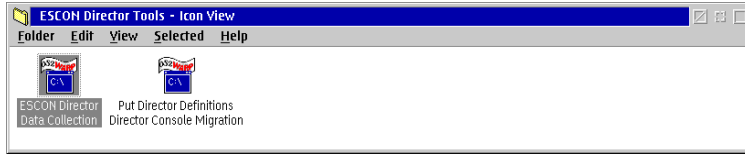

Figure 2-34. ESCON Director Tools - Icon View Window
- b. Double-click the *ESCON Director Tools* icon at the OS/2 desktop on the Console. The *ESCON Director Tools - Icon View* window appears (Figure 2-34).